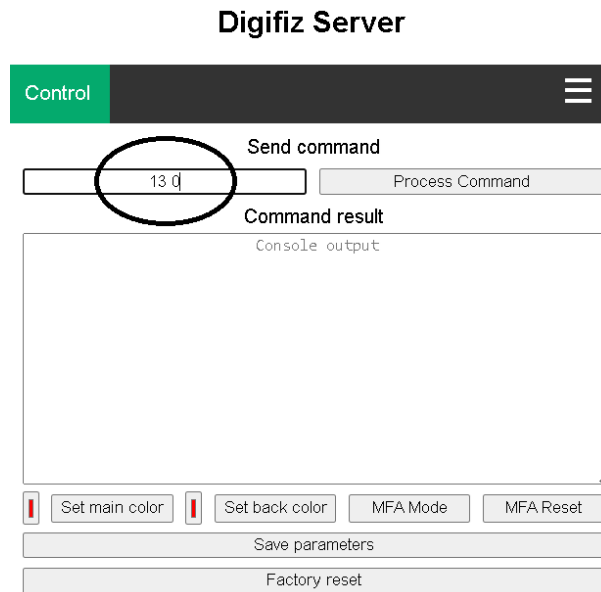

Figure 8.3: Example command sequence disabling automatic brightness.
The Control tab provides a command input line (1), a Process button (2), a result window (3), quick controls (4), a Save button (5), and a Reset button (6). Enter commands as space-separated pairs <number> <value> using integers only; punctuation and quotation marks are not required. Figure 8.3 illustrates the interface while toggling automatic brightness.